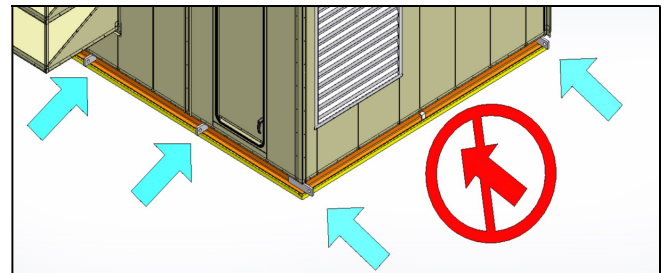

Figure 1: Possible Lifting Lugs
- As mentioned previously, it is important to use all lifting lugs provided on the structural unit base of the unit. (**Figure 1**). If all lifting lugs are not used, damages on the unit, injury or death can occur.